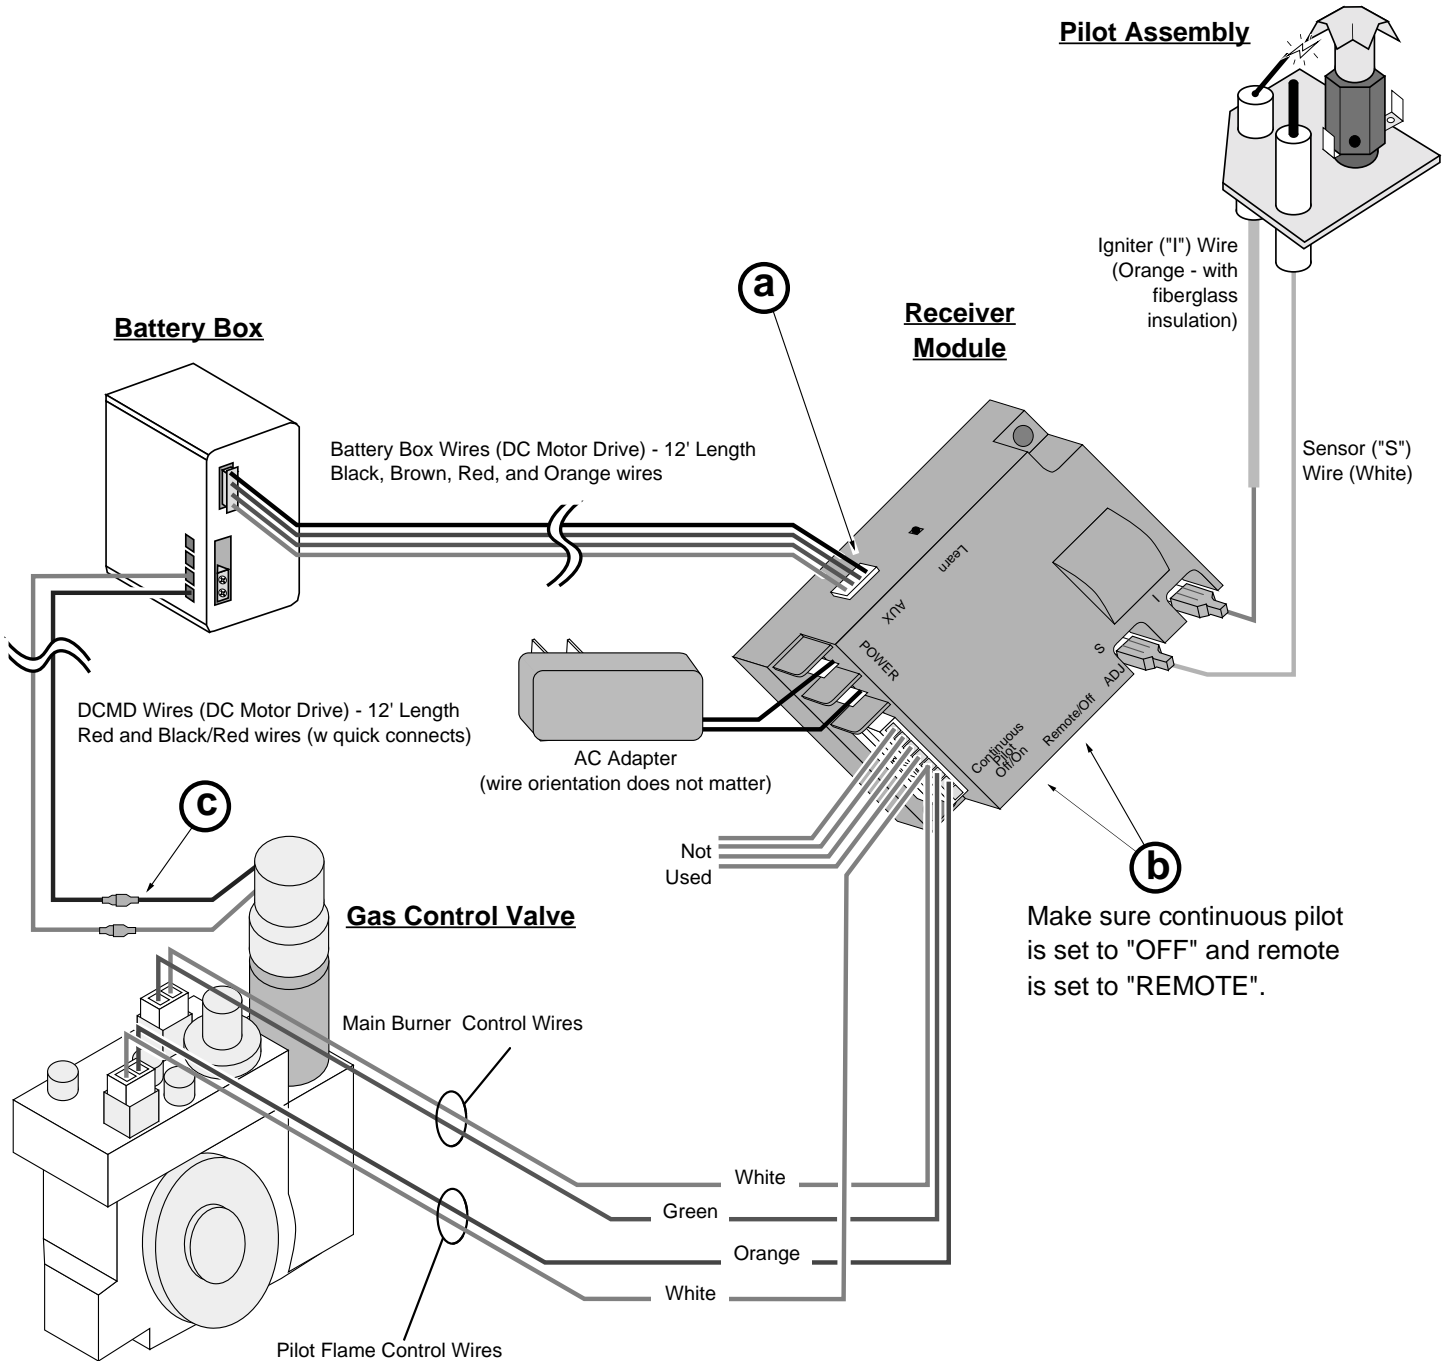

Figure 12
1. Connect the battery pack wire harness to the receiver module where it is marked "AUX" (see Figure 12 – item "a"). At this time make sure the continuous pilot switch is set to "OFF" and the remote switch is set to "REMOTE" on the receiver module (see Figure 12 – item "b"). You may also wish to verify the wires leading from the receiver are fully attached.
2. Connect the DCMD wires (red and red/black) to the two wires (red and black) exiting the motor assembly on the gas control valve (see Figure 12 – item "c").